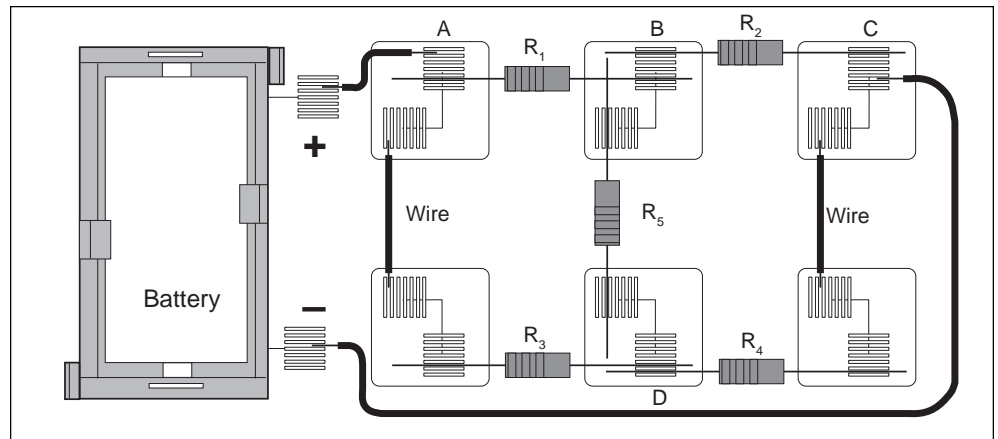
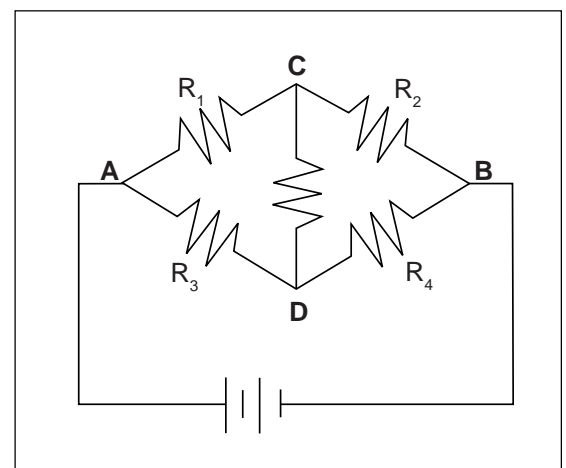

Figure 7.1a
Figure 7.1b
- ① Connect the circuit shown in Figure 7.1a using any of the resistors you have **except the 10 Ω one**. Use Figure 7.1b as a reference along with 7.1a as you record your data. Record the resistance values in the table below. With no current flowing (the battery disconnected), measure the total resistance of the circuit between points **A** and **B**.
- ② With the circuit connected to the battery and the current flowing, measure the voltage across each of the resistors and record the values in the table below. On the circuit diagram in Figure 7.1b, indicate which side of each of the resistors is positive relative to the other end by placing a "+" at that end.
- ③ Now measure the current through each of the resistors. Interrupt the circuit and place the DMM in series to obtain your reading. Make sure you record each of the individual currents, as well as the current flow into or out of the main part of the circuit, I_T .